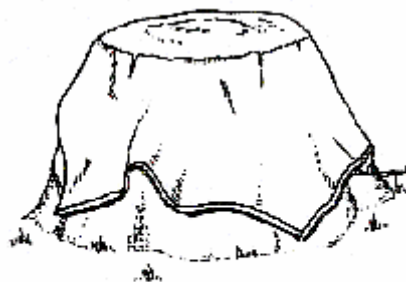

Figure 3
**Figure 3.** For best results, cover the sand pile with an insulated tarp. An un-insulated tarp can be used but may not provide enough insulating factor in colder temperatures. If enough sand is not being heated, use a thicker insulating tarp, such as a concrete curing blanket. (These are sold at most contractor supply stores.)